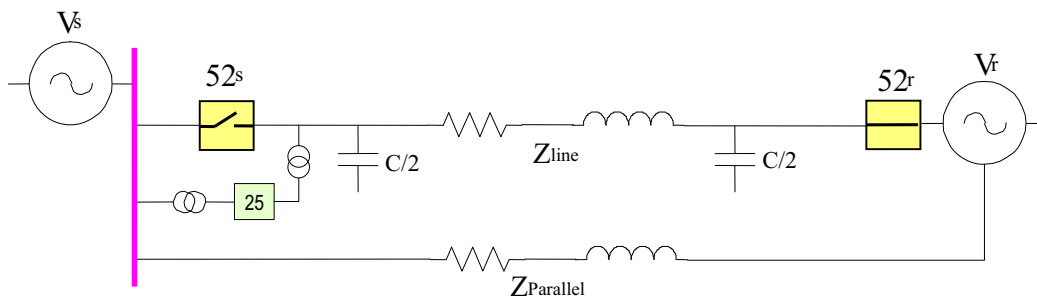

Figure 5-2: Synchronism check element
Synchronism check (25) is defined as the comparison of the voltage difference of two circuits with different sources to be either linked through an impedance element (transmission line, feeder, etc.), or connected through parallel circuits of defined impedance (Figure 5-2: Synchronism check element) The voltage comparison between both sides of a breaker is performed before closing the breaker, in order to minimize internal damage that can occur due to the voltage difference, both in magnitude and angle. This is extremely important in steam generating plants, where reclosing output lines with angle differences can lead to severe damage to the turbine axis.